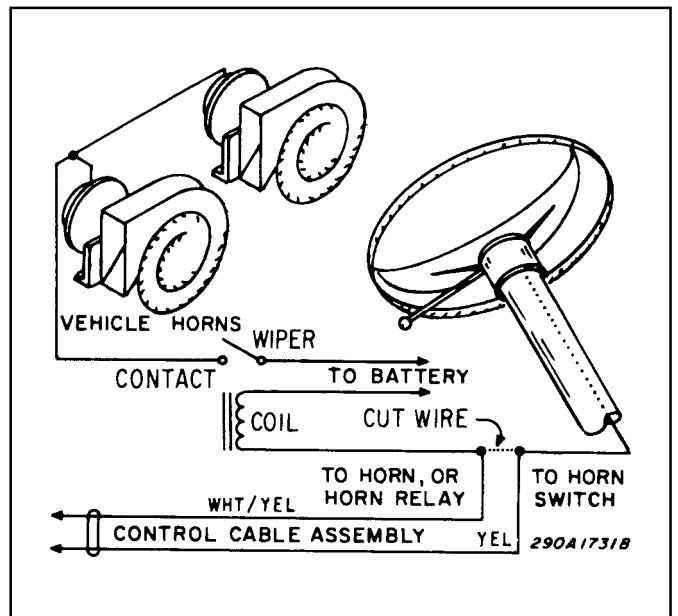

Figure 3-3. Horn Ring Connections.
1. Horn Ring (figure 3-3).
- d. Obtain an SPST relay of sufficient contact current capacity to activate the vehicle horn. Refer to figure 3-3 while performing the following steps.